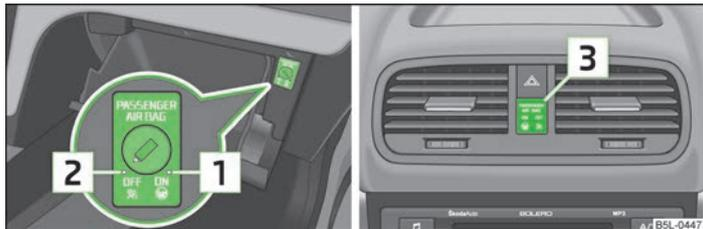

Fig. 127 Storage compartment: Switch for the front passenger airbag/indicator light for the deactivated front seat passenger airbag
The front passenger airbag can be switched off with the key-operated switch » Fig. 127 on page 142.
- Switched off airbags are indicated in the middle of the dash panel by the yellow indicator light **OFF**  in the display **PASSENGER AIR BAG** coming on » Fig. 127 on page 142.
- Use the key to turn the slot of the key switch into position **2** » Fig. 127 **OFF**.
- Check that the yellow indicator light **OFF**  in the display **PASSENGER AIR BAG** in the middle of the dash panel lights up **3** » Fig. 127 when the ignition is switched on.
- Use the key to turn the slot of the key switch into position **1** » Fig. 127 **ON**.
- Check that the yellow indicator light **ON**  in the display **PASSENGER AIR BAG** in the middle of the dash panel lights up **3** » Fig. 127 when the ignition is switched on. The indicator light **ON**  goes out 65 seconds after the ignition is switched on.
The airbag indicator light is located in the middle of the dash panel » Fig. 127 **3**.